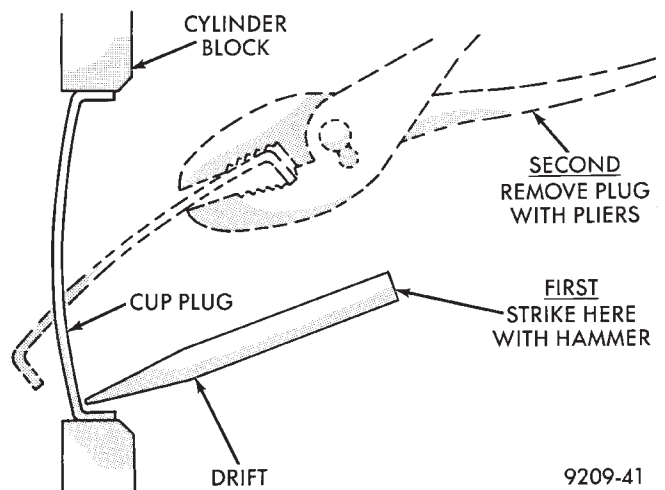

Fig. 115 Engine Core Plug Removal
(1) Drain the cooling system. Refer to Group 7, Cooling System for procedure.
(2) Using a blunt tool such as a drift or a screw driver and a hammer, strike the bottom edge of the cup plug (Fig. 115)